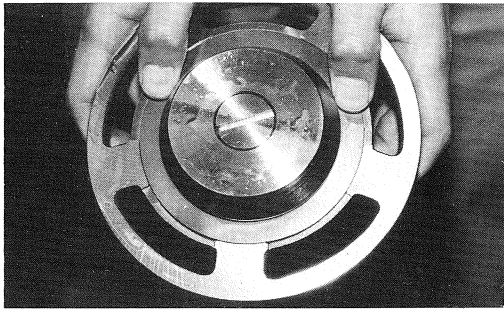

Fig. 75 Testing discharge valve
- d) When assembly of these parts is finished, check operation as shown in Fig. 75.